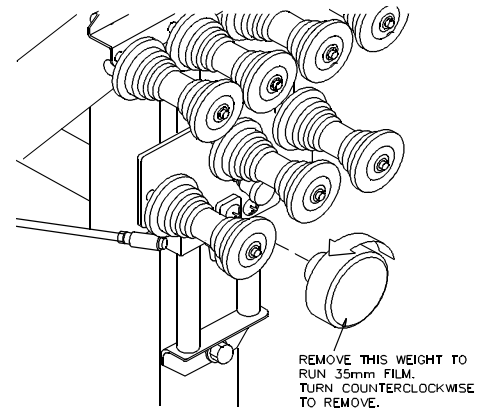

Figure 1
2.) Install the removable Take-Up Weight (See Fig. 1)
- 2.) Remove the Take-Up Weight. (See Fig. 1.)